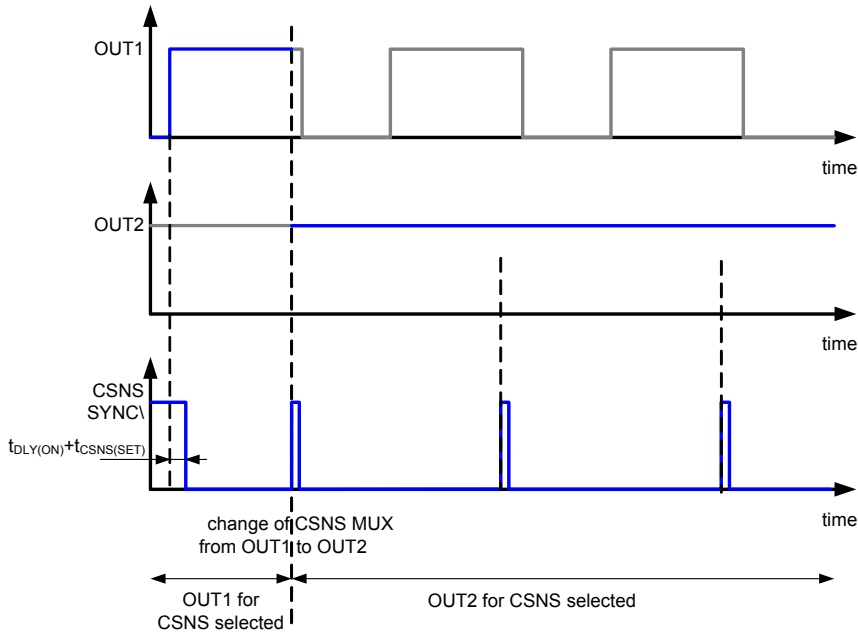

Figure 33. CSNS SYNCB when the output is programmed with 100%
- when the output is programmed with 100% PWM, the CSNS SYNCB delivers a logic[0] a high pulse with the length of 100 μ s (typ.) during the PWM counter overflow for TRIG0 and TRIG1/2 settings, as shown in Figure 33